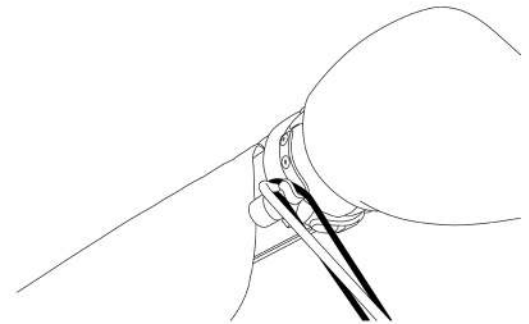

Figure 7. Hook Adjustment Loop Over Roller Bracket
- 4.2. Then use the cane to attach the adjustment loop over the roller bracket. (Refer to Figure 7)